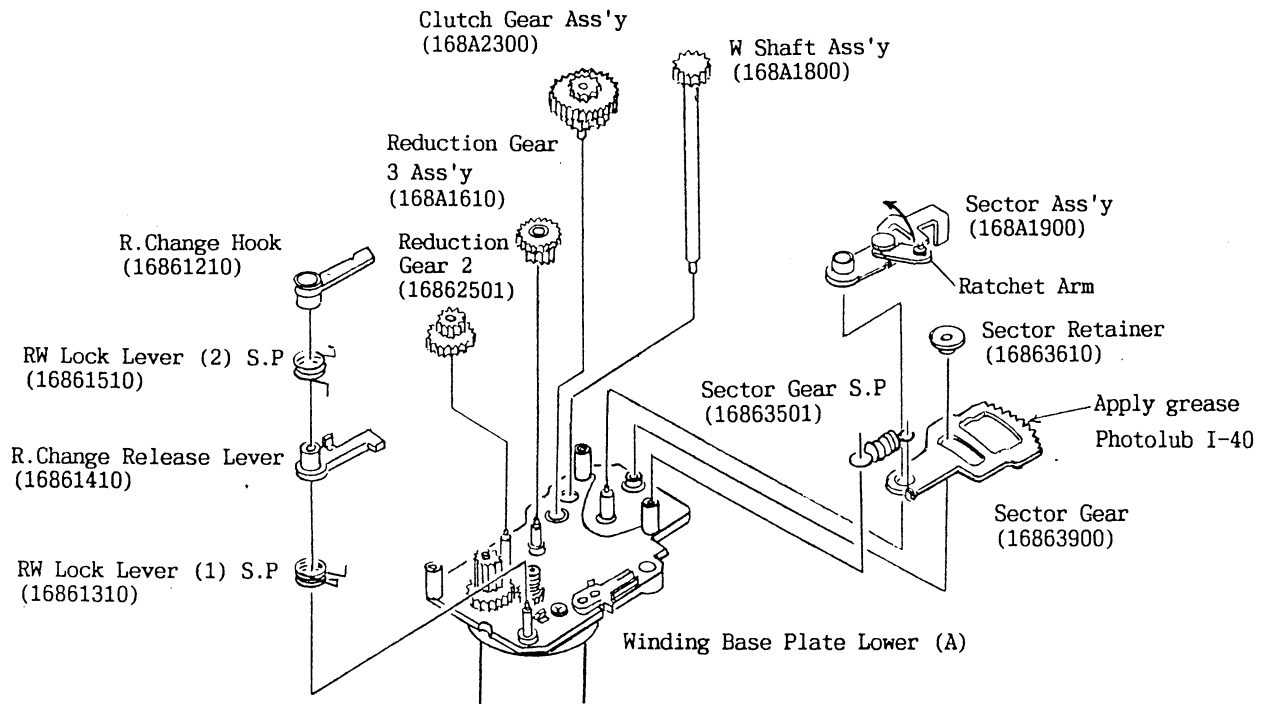

Fig.70
- 10) Install the B Gear (16867200) on the Winding Base Plate Lower (B).
- 11) Turn the Ratchet Arm in the direction of the arrow (See Fig.70), combine the Winding Base Plate Lower (B) Ass'y with the Winding Base Plate Lower (A) Ass'y, and tighten the Winding Base Plate Lower (B) Setscrews (69113076) x3.
- 12) Install the CL Gear (16863010) and CL Gear Spring (16863210) on the Winding Base Plate Lower (B) Ass'y.
- 13) Attach the RW Gear (Left) (16864511) and the Winding Base Plate Lower (C) Ass'y (168A2600) to the Winding Base Plate Lower (B) Ass'y, and tighten the Winding Base Plate Lower (C) Setscrews (61802526) x3.